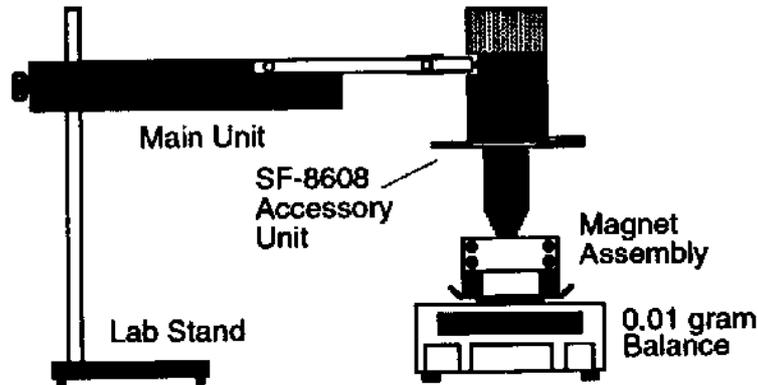

Figure 16.4: Setting up the Current Balance Accessory
1. Set up the apparatus as shown in Figure 16.4